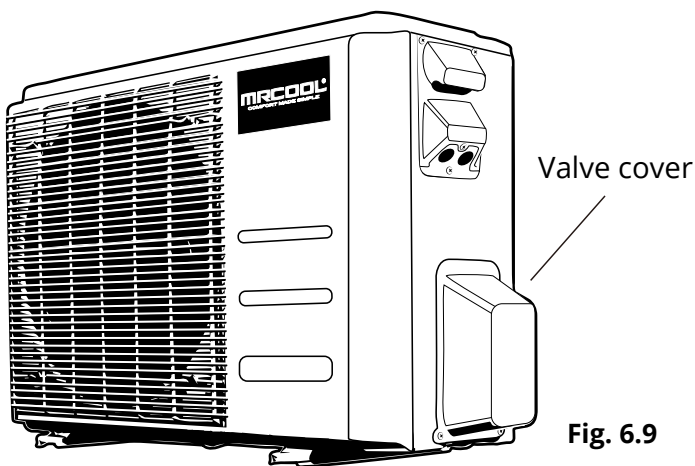

Fig. 6.9
1. Unscrew the cover from the packed valve on the side of the outdoor unit. (See **Fig. 6.9**)